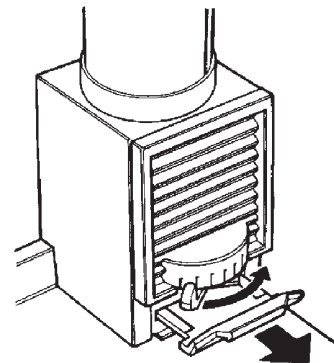

Fig.7
- Open flue chamber damper to maximum (Fig. 7).
- Flue dilution lever fully to 'left' (flue chamber door closed, Fig. 7).
Turn the flue dilution lever (See Fig. 7) from left to right hand so that the flue chamber door opens at the bottom and minimise burning rates.